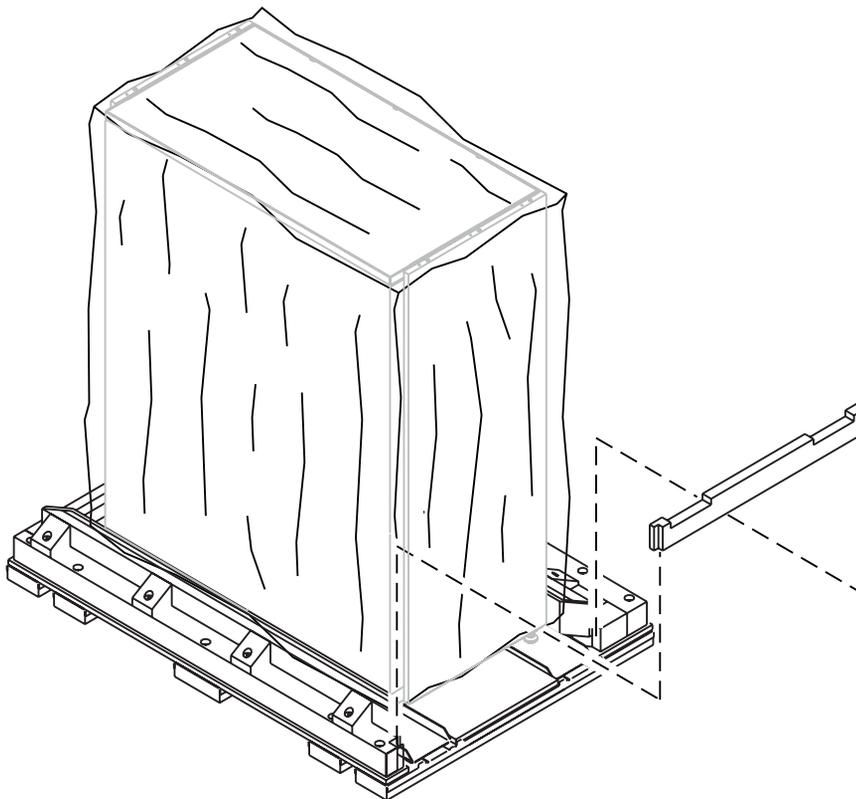

Figure 4-6: Removing the wooden bar
10. On the right side of the library, lift the wooden bar out of its brackets on the pallet (see Figure 4-6).
13. Reinsert the right wooden bar in its brackets on the pallet to hold the library in place (see Figure 4-6).